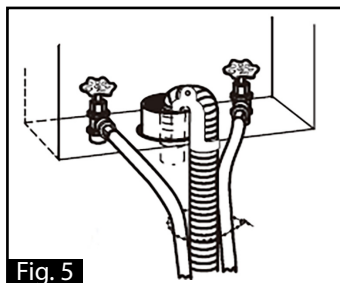

Fig. 5
1. SYSTÈME DE VIDANGE PAR TUBE VERTICAL - MUR OU SOL (FIG. 5 & 6) :